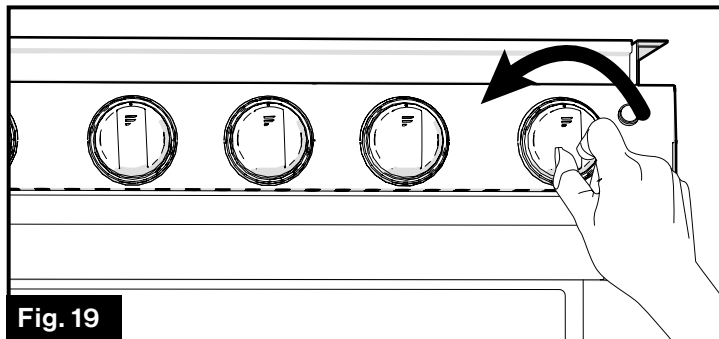

Fig. 19
2. Push and turn the oven control knob counterclockwise to the  position. (Fig. 19)